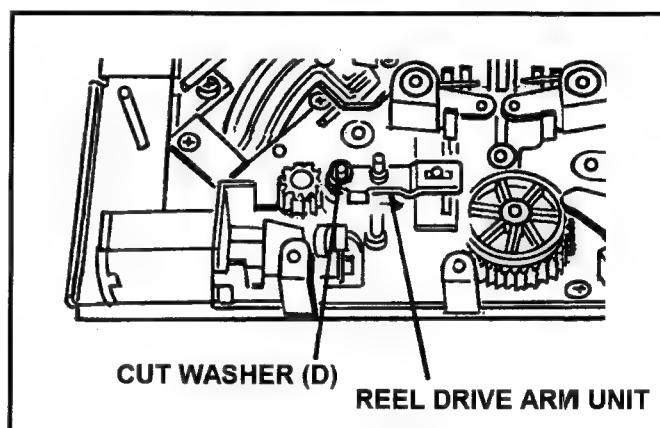

Fig.6-22-2 Removal of Reel Drive Arm Unit
3. Remove the L-M Release Angle Unit. (Refer to item 6-21).
4. Remove the Reel Drive Sensor P.C.Board (Refer to item 6-20).
5. Remove the Cut Washer (A) and remove the Reel Drive Cam Gear.
6. Remove the Cut Washer (B) and remove the MIC Drive Arm Unit.
7. Remove the Cut Washer (C) and remove the MIC Geneva Gear.
8. Remove the Cut Washer (D) and remove the Reel Drive Arm Unit as shown in Figure 6-22-2.
9. Remove the Supply and Take Up Reel Rotor Unit (Refer to item 6-3).
4. Place the REC Inhibit SW in front position on Distinction SW Unit by rotation of MIC Geneva Gear, and then MIC Geneva Gear should be positioned as shown in Figure 6-22-2.
Note: Protrusion of MIC DRIVE Arm Unit is positioned as shown in Figure 6-22-2.